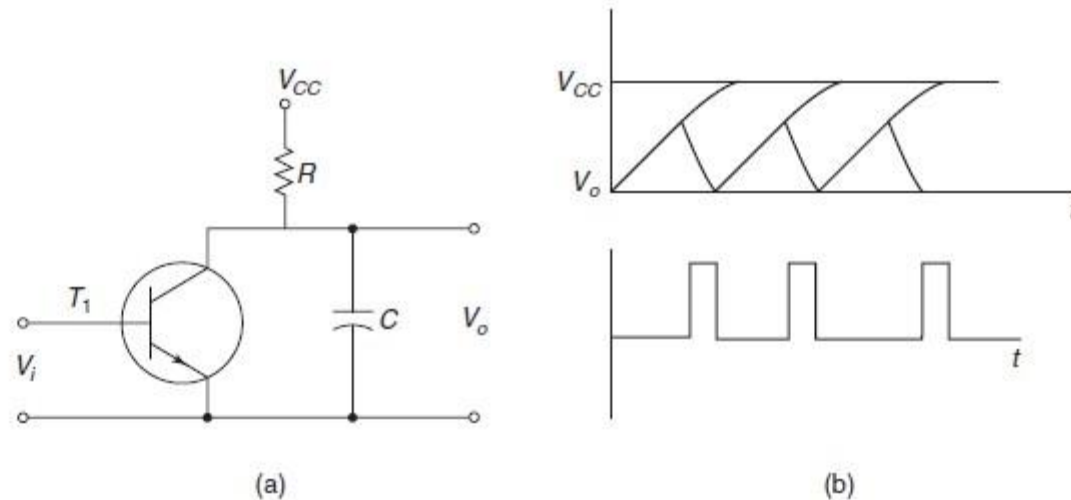

Figure 14-7: (a) simple saw-tooth generator (b) associated waveforms.
- The circuit shown in Fig. 14-7(a) is a simple sweep circuit, in which the capacitor  $C$  charges through the resistor  $R$ .
- The capacitor discharges periodically through the transistor  $T_1$ , which causes the waveform shown in Fig. 14-7(b) to appear across the capacitor.
- The signal voltage,  $V_i$  which must be applied to the base of the transistor to turn it ON for short time intervals is also shown in Fig. 14-7(b).